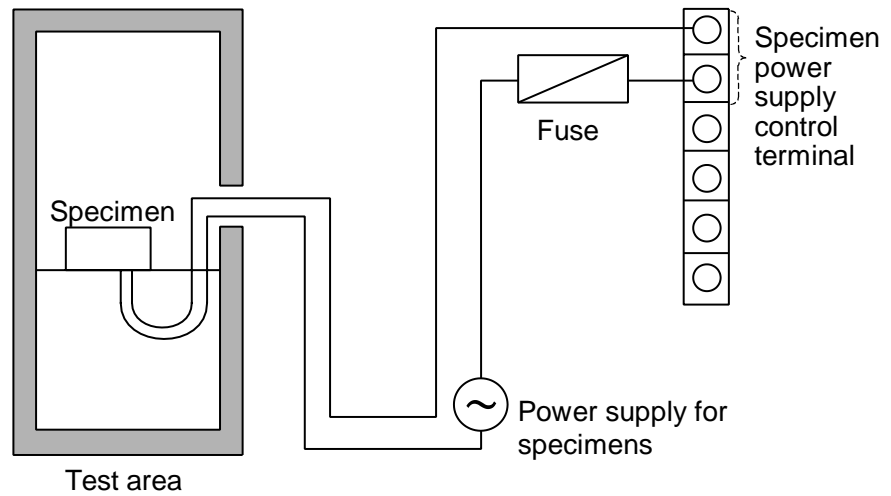

Fig. 4.3 Wiring to specimens
- **Droop cables below and up to specimens as shown in Fig. 4.3.**